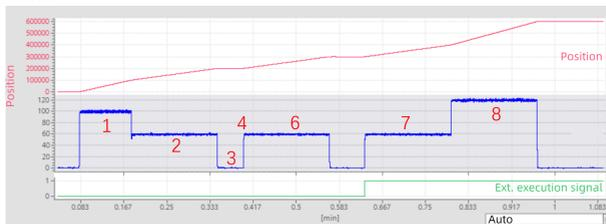

Figure 3-10 Servo axis operation curve
5. Set the parameters as shown above to get the servo axis operation curve as shown in "Figure 3-10" on page 25. The numbers on the diagram correspond to the program blocks.
- As shown in "Figure 3-10" on page 25, the subsequent condition of block 1 is intermittent execution, so there is a certain deceleration and acceleration process between blocks 1 and 2.